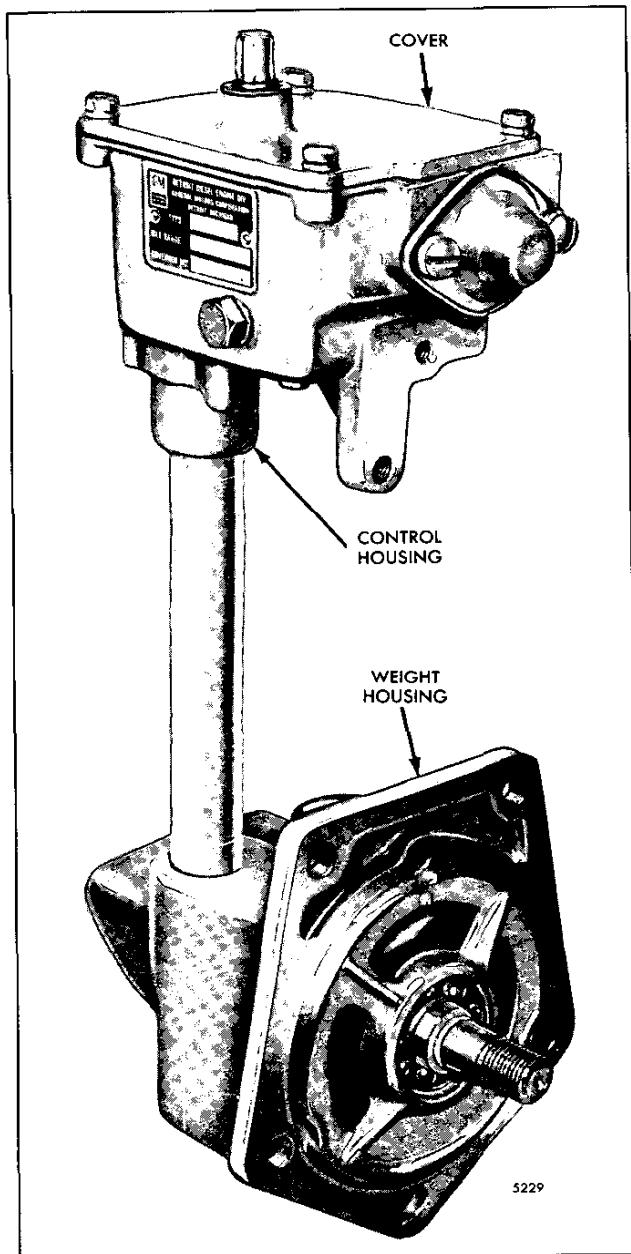

Fig. 1 – Constant Speed Governor
- i. Place the variable speed spring housing into position against the governor housing, with the speed control lever facing the top of the governor (Fig. 2) and the variable speed spring over the end of the spring plunger (Fig. 1) inside the governor housing.